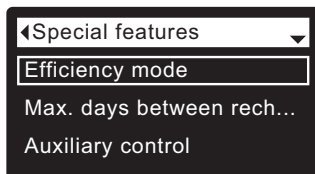

FIG. 90
5. Press the SELECT (O) button to display the Special features menu (See Figure 90).
9. Press the SELECT (O) button. The display will go back to the Special features menu (Figure 90).